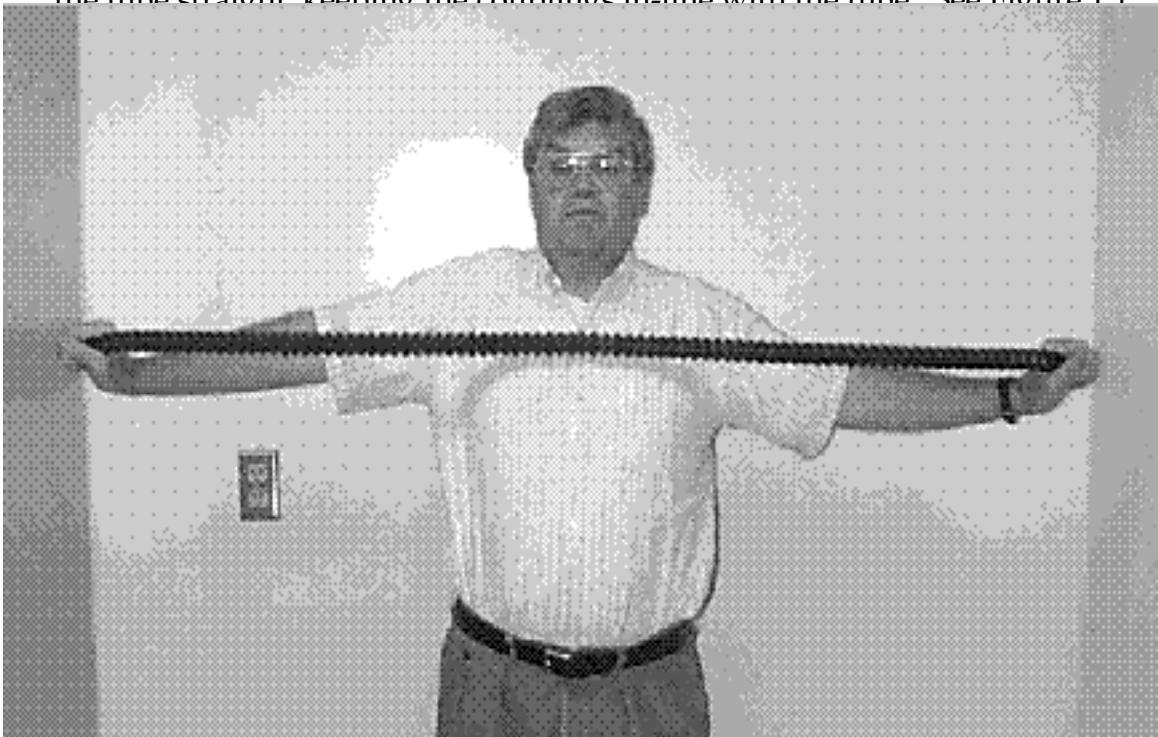

Figure 1: Proper Pull Technique
2. Stretch the tube by drawing the end couplings away from each other until the tube is stretched to a distance of greater than 5 feet but not to exceed 6 feet. (Pull the tube straight, keeping the couplings in-line with the tube. See Figure 1.)